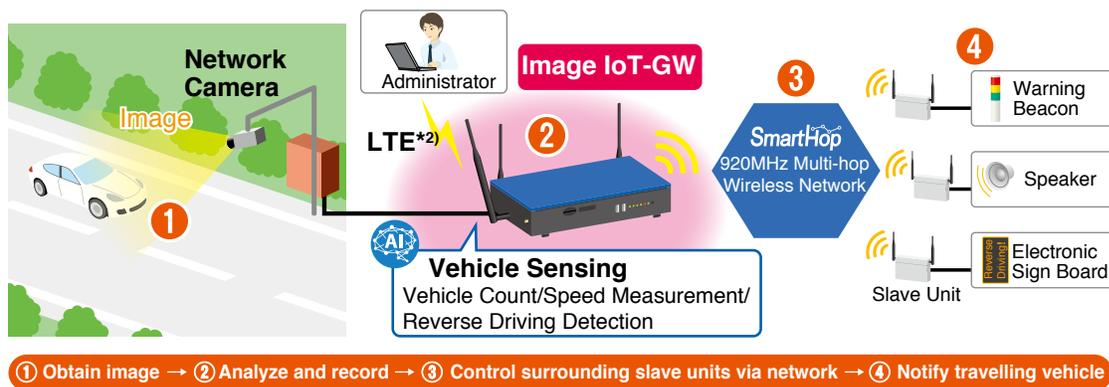

Figure 2. Warning through AISION Vehicle Sensing System and External IoT Device Interworking
**Figure 2** shows an example of AISION Vehicle Sensing System interworking with external IoT devices (warning beacon, speaker, electronic sign boards, etc.)